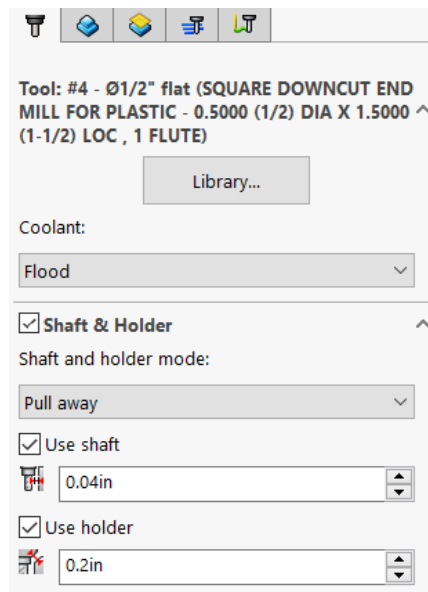

Figure 12 :Tool Setting
- Check Shaft & Holder: Pull away(Fig 12)